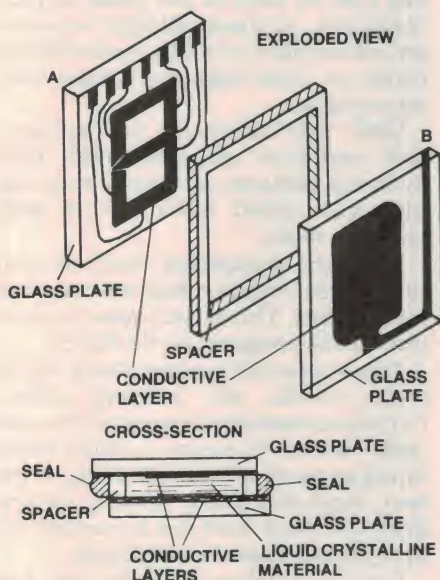

Figure 10.
The cell consists of a very thin layer (about $12 \mu\text{m}$) of the liquid crystalline material between two sheets of glass, which have a conductive coating on their inside (see Figure 10). One glass plate (A) has the actual seven-segment display etched on it. The other plate (B) has a common electrode etched on it.